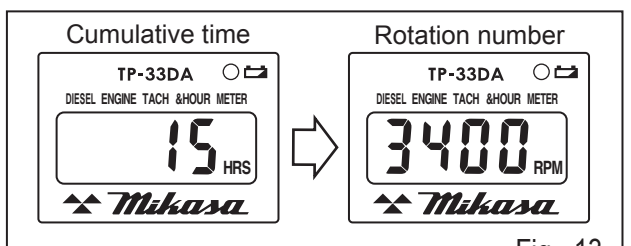

Fig. 13
- d. "Rotation number" is displayed during operation. (Fig.13)